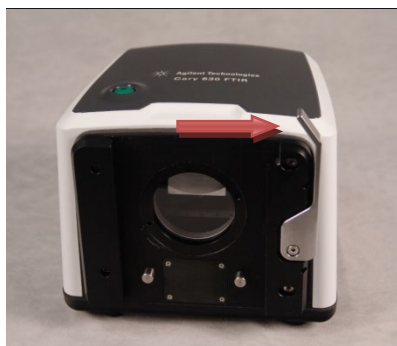

Figure 1. Press the release lever of the Cary 630 Engine outwards before sliding the accessory into place.
- 2 The accessory is meant to slide into the recessed or dovetailed area. This is done by matching the dovetail to the front plate and sliding in a downward fashion (see Figure 1).